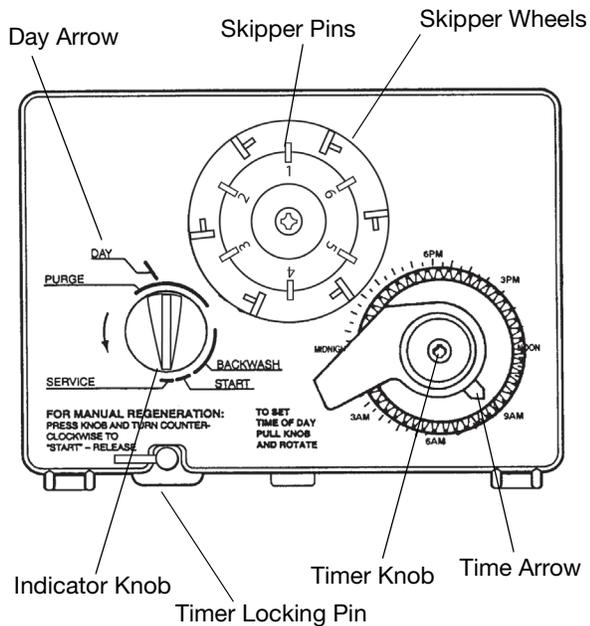
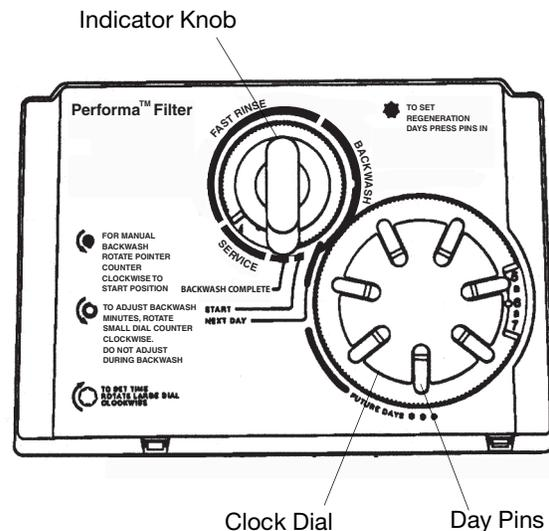
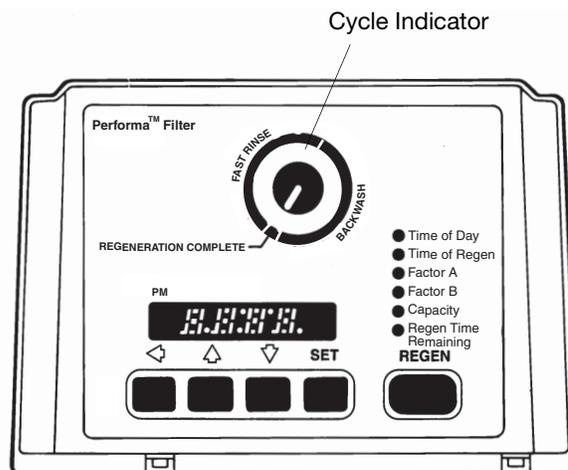

Figure 4
Figure 5
Figure 7
Note: The following steps will require turning the indicator knob (Figure 4 and Figure 5) or the cycle indicator (Figure 7) to various positions. Manually rotate the camshaft **COUNTERCLOCKWISE** only until indicator knob and cycle indicator points to desired position. (See manual regeneration sections for each control's manual operation.)
- Set days of regeneration on skipper wheel (Figure 4).
Note: The timer locking pin should always be horizontal (Figure 4) during operation.
extra regeneration can be achieved. Depress the indicator knob on the 440i (Figure 4) with a wide-blade screwdriver and turn **COUNTERCLOCKWISE** to **START** to initiate a regeneration. It will take a few minutes for regeneration to start. A normal regeneration will take approximately two hours.
Electricity is used only to run the control and to rotate the camshaft. All other functions are operated by water pressure. Therefore, in the event of a power outage, all the regeneration positions may be dialed manually by depressing the indicator knob and turning **COUNTERCLOCKWISE** (Figure 4). The following cycle times should be used for proper regeneration:
- Set days of regeneration (Figure 5).